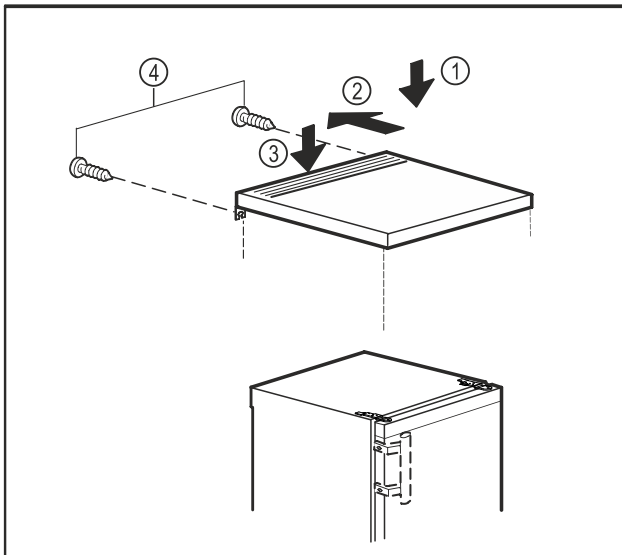

Fig. 19
- Place the table top on the device. Fig. 19 (1)
- Push the table top backwards. Fig. 19 (2)
- Press the table top down at the back. Fig. 19 (3)
- Tighten the screws on the rear end. Fig. 19 (4)